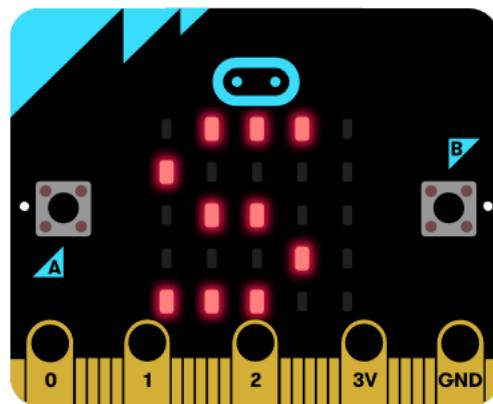

Figure 1.1
6.1 First, we need to download the microbit-Buletooth-APP-control.hex to micro:bit, you can see that the micro:bit dot matrix shows an "S" as shown in Figure 1.1, which is the state that Bluetooth is not connected.